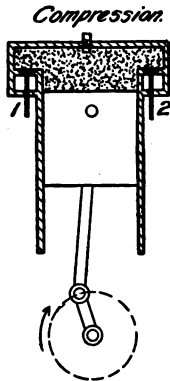

FIG. 4.
**Compression, Fig. 4.** During this up stroke both valves are closed and the charge is compressed into a small space at the cylinder end called the "clearance space." The necessity for compression will be shown later.